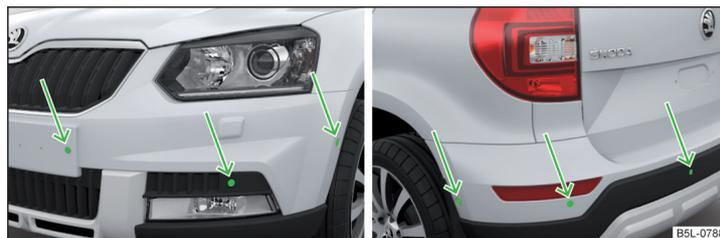

Fig. 137 Location of the ultrasonic sensors: front / rear
The system uses ultrasound waves to calculate the distance between the bumper and an obstacle. The ultrasonic sensors are, depending on vehicle equipment, located in the back or in the front bumper » Fig. 137 on page 147.
- Keep the system sensors » Fig. 137 on page 147 clean, snow- and ice-free and do not cover with any objects of any kind, otherwise the system functioning may be impaired.